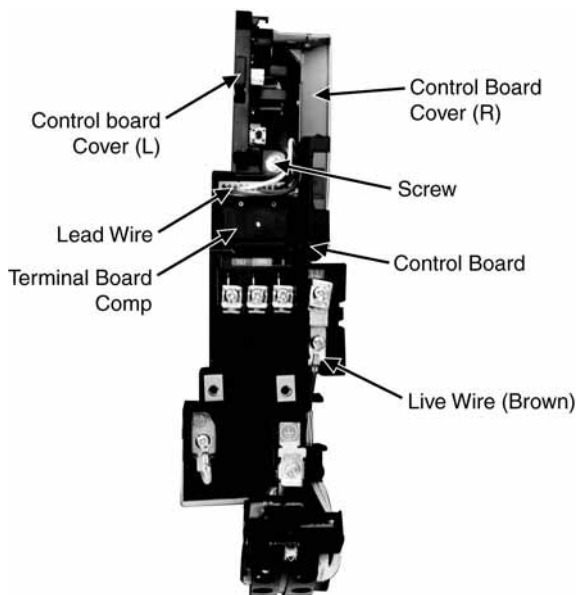

Fig. 6
1. Disconnect lead wire from terminal board complete. (Fig.6)
2. Disconnect live wire (brown) from terminal plate connector. (Fig.6)
3. Release screw from the control board. (Fig.6)
4. Remove control board cover (L) and control board cover (R) from the control board. (Fig.6)